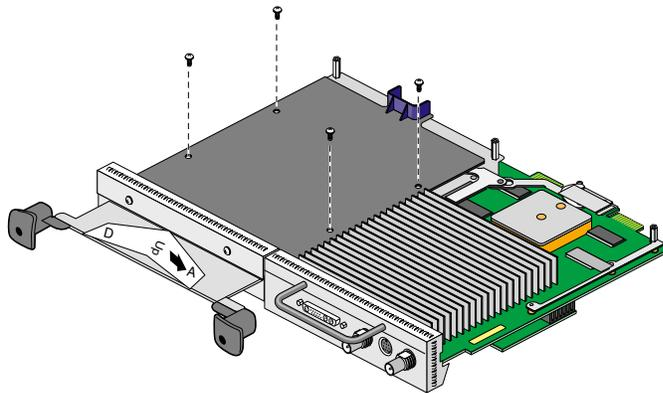

Figure 18 Removing the Screws from the Blank Panel
1. Using the supplied Phillips reversible screwdriver, remove the screws from the option board or blank panel occupying the desired slot, as shown in Figure 18.